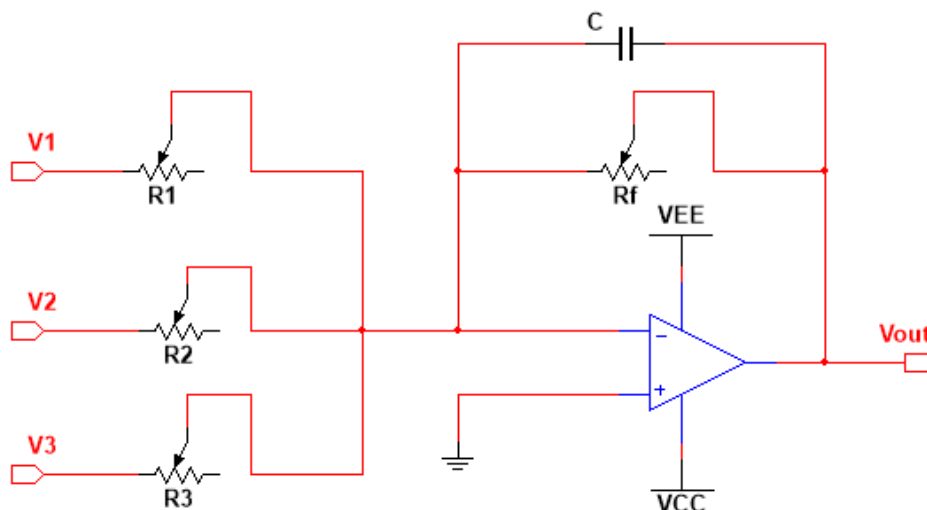

Figure 4.1 Summing amplifier with potentiometers
- Build the circuit in Figure 4.1 with power supplies $V_{CC} = 12\text{ V}$, $V_{EE} = -12\text{ V}$. Set the function generator to provide $v_1 = \cos(2\pi \times 1000 \times t)\text{ V}$, $v_2 = v_3 = 0\text{ V}$. Set $R_1 = R_2 = R_3 = R_f = 100\text{ k}\Omega$ and $C = 22\text{ pF}$. Sweep the frequency of V_1 from 10 Hz and varying it using 1-2-5 sequence up to 1 MHz while keeping the amplitude the same. Record the amplitude of the output signals.